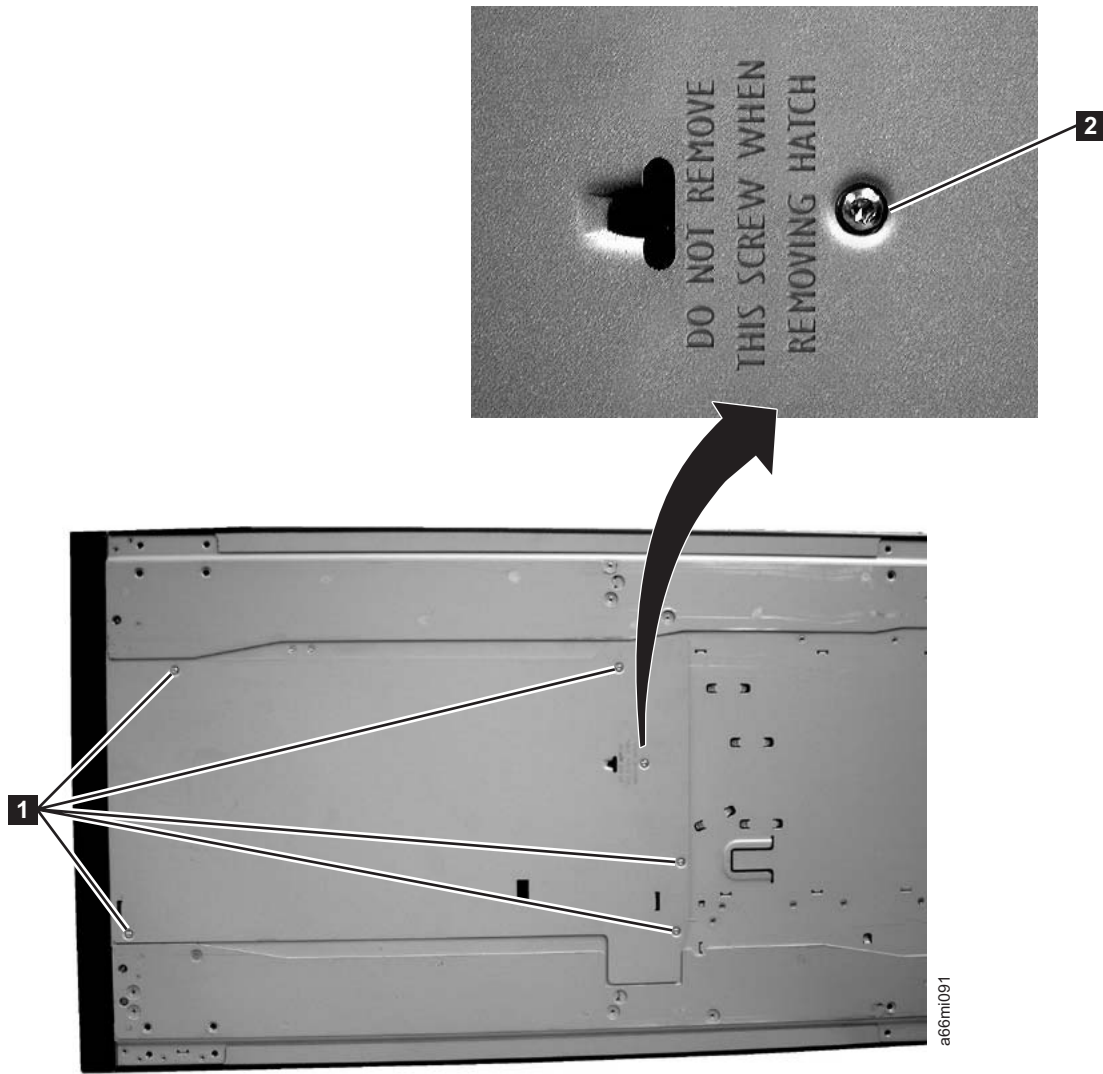

Figure 3-7. Bottom cover of the 5U control module
2. Turn the 5U control module on its side and remove the 5 - T10 Torx bottom cover screws ( **1** in Figure 3-7 on page 3-9).
**Important:** DO NOT loosen or remove the screw holding the home sensor ( **2** in Figure 3-7 on page 3-9). This screw has the same T10 Torx head as the cover screws, but it is longer and has a coarse thread for screwing into the plastic home sensor.